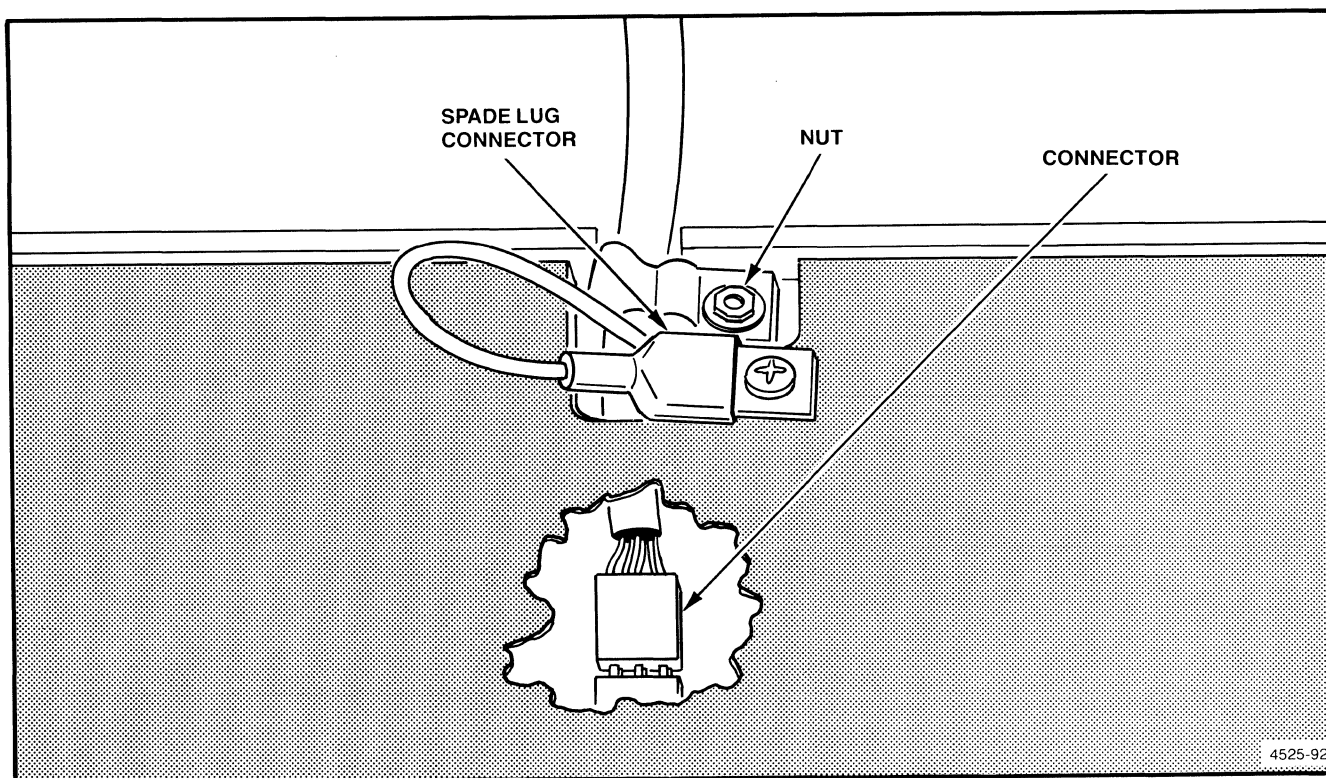

Figure 6-22. Disconnecting the Keyboard Cable.
8. Remove the ¼-inch nut and lock washer in Figure 6-22, and remove the cable's strain relief strap.